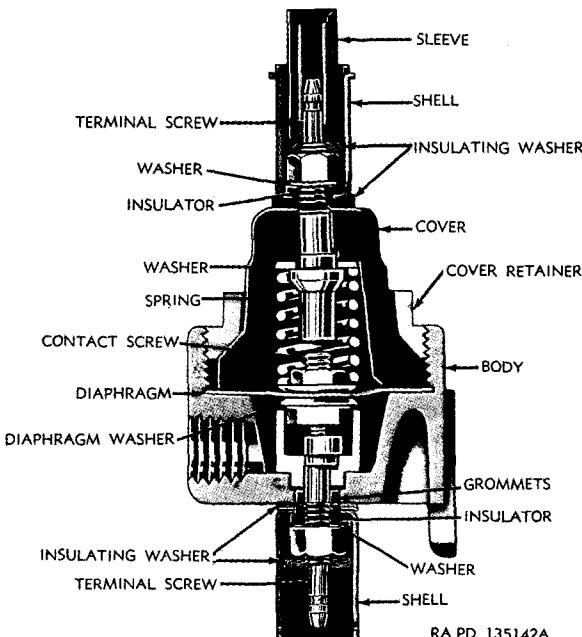

Figure 221. *Type LP-2 low pressure warning switch (waterproof)—sectional view.*
- (3) *Type LP-2 (waterproof)* (fig. 221). Place terminal bushing on lower terminal screw and seat bushing over **D** shaped shoulder on screw. Position screw and bushing in body and install grommet. Insert insulator in hole in bottom of connector shell and place assembly over screw. Install insulating and plain washer, nut, and a second nut as a lock nut. Install insulating washer in shell after nuts are tightened.